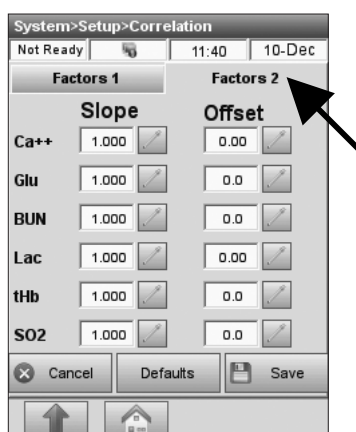

Fig. 3-49 Correlation Factors 2
4. Press **<Factors 2>** to go to the next screen (Fig. 3-49).
- NOTE: The factory setting is 1.000 for all slopes and 0.0(00) for the offsets. This deactivates the correlation factors.*